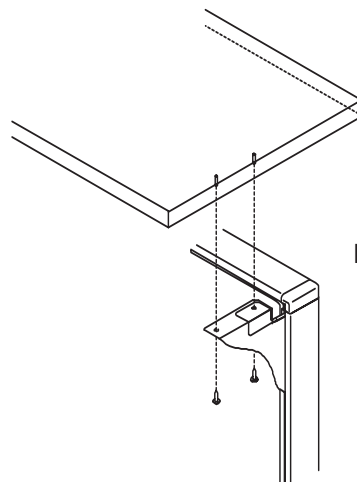

FIG. 2
5. Set the countertop on the (2) brackets and drive (4) #12 x 1" screws into the pre-drilled holes in the countertop. Note that when properly installed, the countertop will extend approximately 4" over the panel on the outside of the workstation (Figure 2).
6. If (2) countertops are adjoining each other, mount a splice plate in the pre-drilled holes on the inside of the station, and secure with (4) #12 x 1" screws.